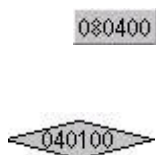

Figure 55: Example – Work Position with Assigned Processes
- The number of workers (**1WP**) calculated for this work position. The example in Figure 55 refers to one worker.